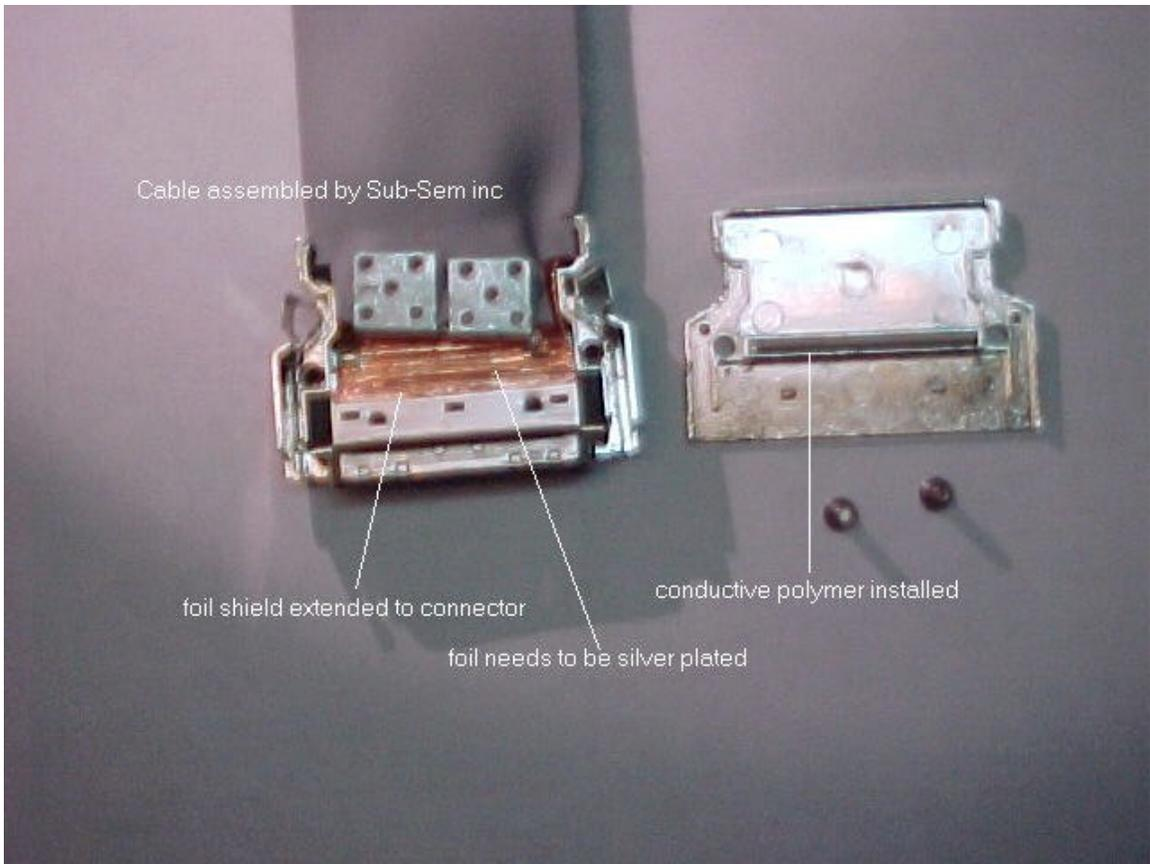

Figure 3
- The third example is better yet but the foil shield is not plated in the area of the elastomer gasket. See figure 3.